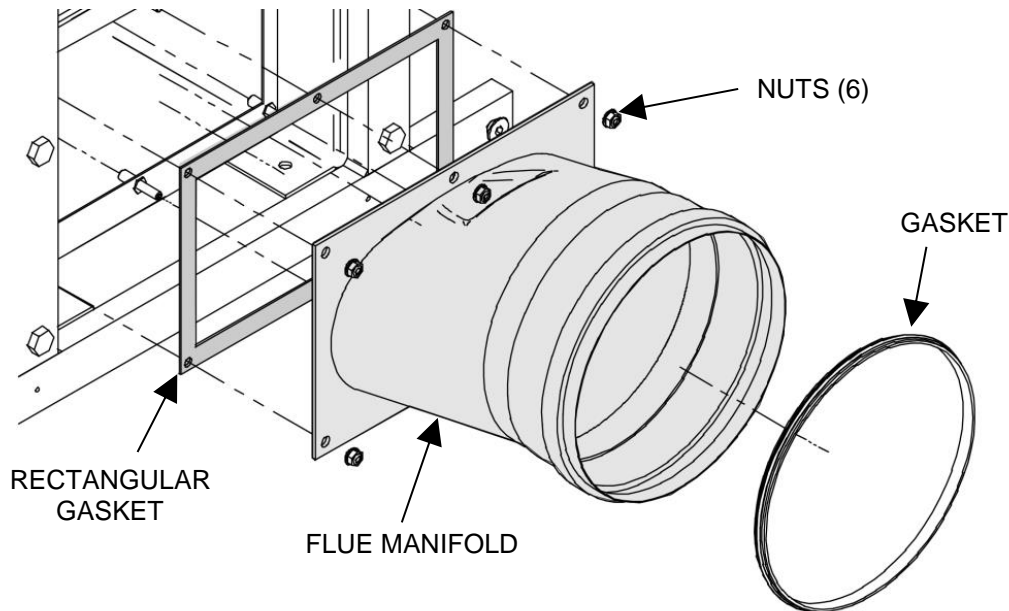

Figure 4-22: Connection of Flue Manifold to Boiler Exhaust Opening
To assemble the flue manifold to the boiler flue exhaust opening, retrieve the six (6) nuts and washers from the plastic bag, shipped with the boiler, and affix to the boiler opening per Figure 4-22. The Manifold may be installed on the left, front, or rear. If switching to left or rear positions, the unused outlet should be covered with the plate and gasket removed from outlet being used.